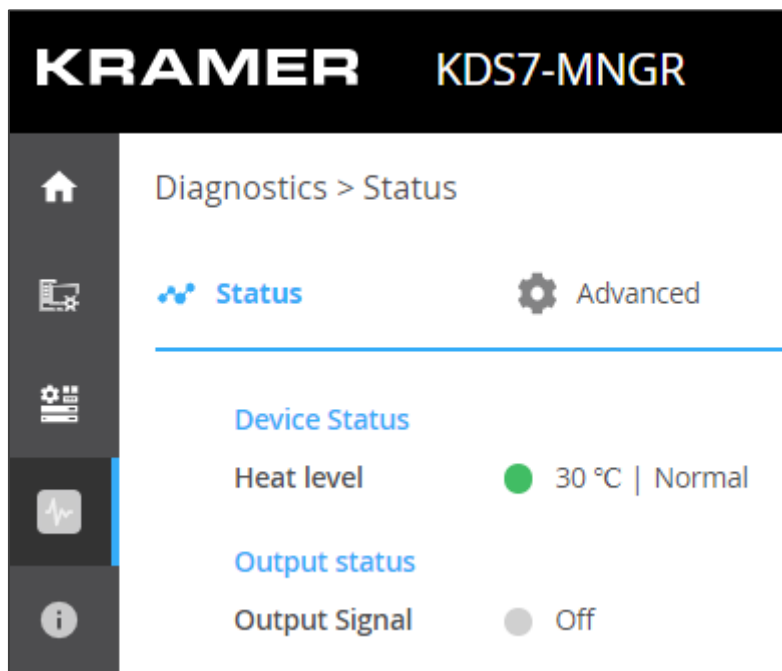

Figure 66: Diagnostics Page – Status Tab
1. In the Navigation pane, click **Diagnostics**. The Status tab appears (see Figure 66).